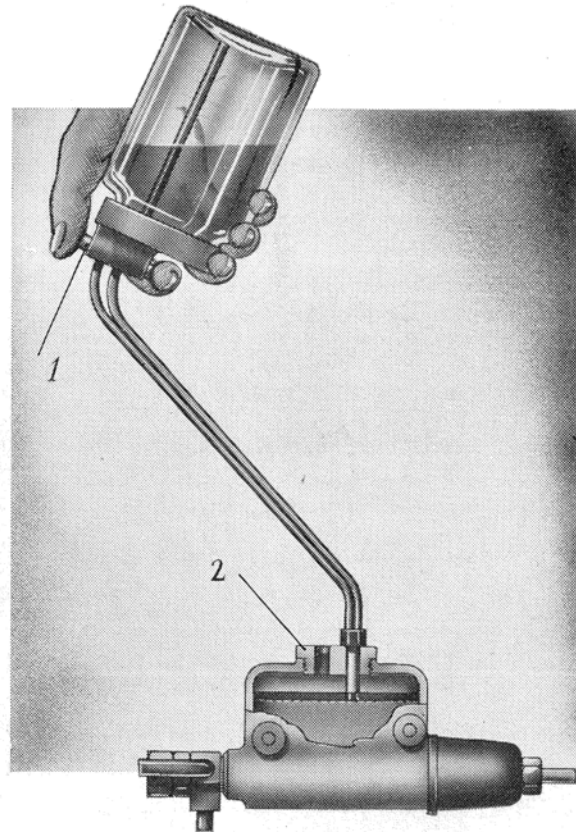

Fig. 29. Filling brake fluid.
It is best to use a special filling flask as shown in Fig. 29. Screw the plug (2) into the place of the cover. Insert the pipe through one of the holes in the plug and open the tap (1). The flask will then maintain the fluid level constant and at the correct level during bleeding.